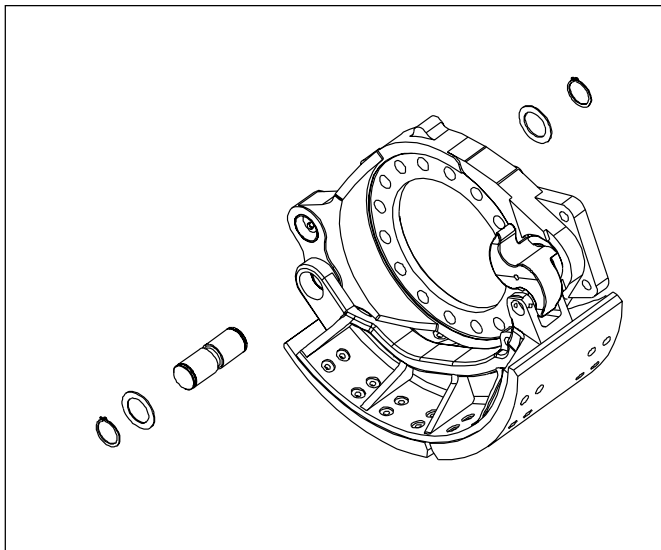

Figure 78. Lower Shoe Positioning
7. Place the lower shoe in position on the spider, and install lower anchor pin, washers and retaining rings. Refer to Figure 78.